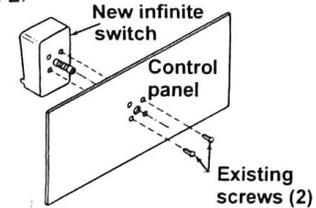

Figure 2
6. With existing screws, mount new switch identical to old switch. See Figure 2.